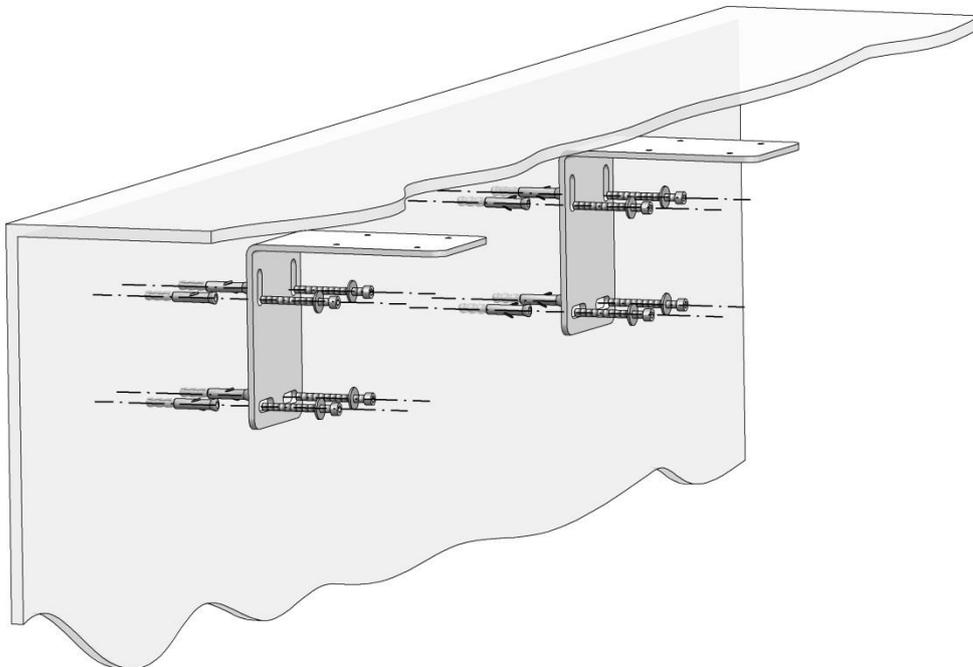

Fig.2
2. Screw the mounting holders to the wall using the $\text{Ø}14$ anchor plugs included in the package (Fig.2)